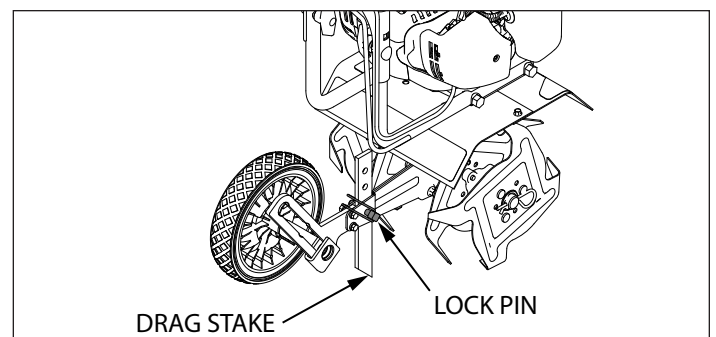

FIGURE 2
4. The drag stake is shipped with point facing upwards. Before using, remove lock pin and turn the drag stake around so the point is directed in the downward position facing towards the tines. Re-insert lock pin. **SEE FIGURE 2**